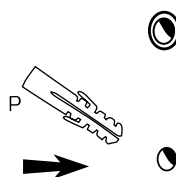

Figure 2 – Insert masonry anchors.
3. Fully insert masonry anchors (P). Tap in with hammer if required. See Figure 2.